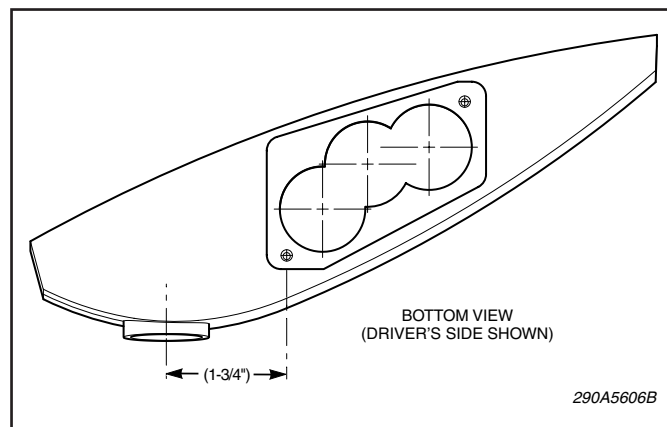

Figure 1.
2. Cut out the included hole templates. See figure 1. Position the templates as shown, centered front to back, and mark the hole centers. Drill the three 1-1/2" holes using a hole saw, then drill the two 5/32" holes. Deburr all the holes, then thoroughly clean the housings to remove all chips.